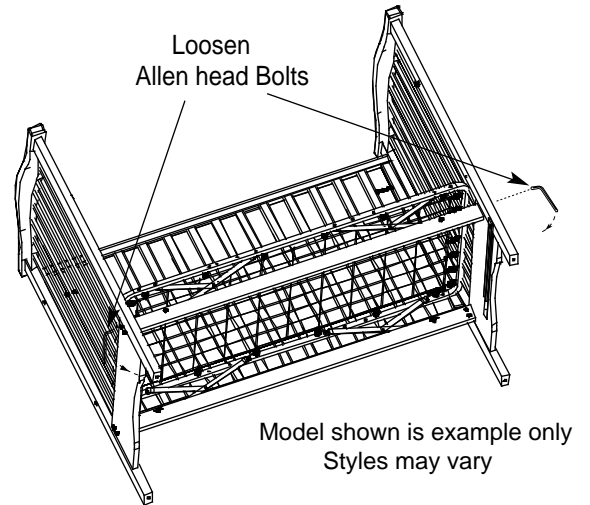
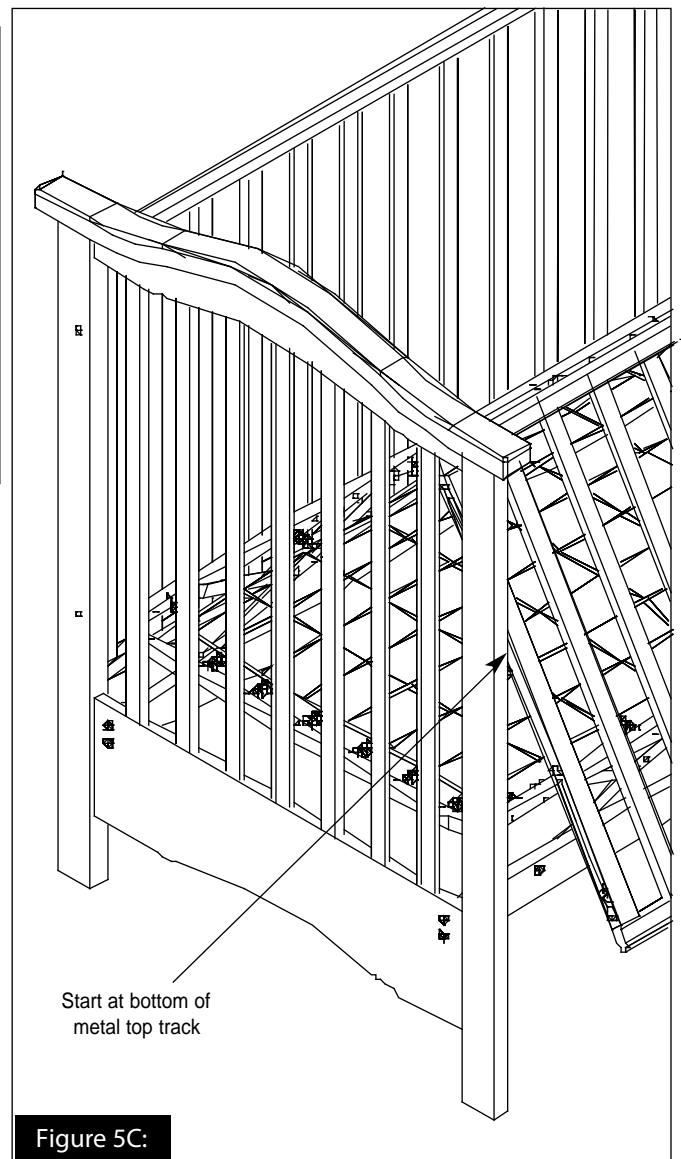

Figure 5A:
Figure 5C:
- TIGHTEN THE FLATHEAD MACHINE SCREW SECURELY BUT DO NOT OVERTIGHTEN WHICH CAN CAUSE THE UPPER GUIDE BUSHING TO COMPRESS AND NOT MOVE FREELY. (SEE STEP 5C AND FIG. 5A).
- C** TO ATTACH THE DROP SIDE RAIL TO THE CRIB, INSERT THE DROP SIDE UPPER GUIDE PLASTIC BUSHING WHEEL MOUNTED TO THE HEADBOARD OR FOOTBOARD INTO THE LOWER OPENING OF THE METAL TRACK ON THE DROP SIDE (FIGURE 5A & 5B). REPEAT ON THE OPPOSITE SIDE. WITH BOTH BUSHING WHEELS SECURE IN THE SIDE TRACKS, SLIDE THE DROP SIDE UPWARDS, AND AWAY FROM YOU APPROXIMATELY AT A 30° ANGLE (FIGURE 5C).
D. AFTER ENSURING THAT BOTH OF THE UPPER GUIDE BUSHINGS HAVE ENGAGED IN THE UPPER METAL TRACKS OF THE DROP SIDE RAIL, (FIGURE 5A) THEN CAREFULLY SLIDE THE DROP SIDE DOWNWARDS AND ROTATE THE BOTTOM END UNTIL IT TOUCHES THE LOWER GUIDE PINS (FIGURE 5C).